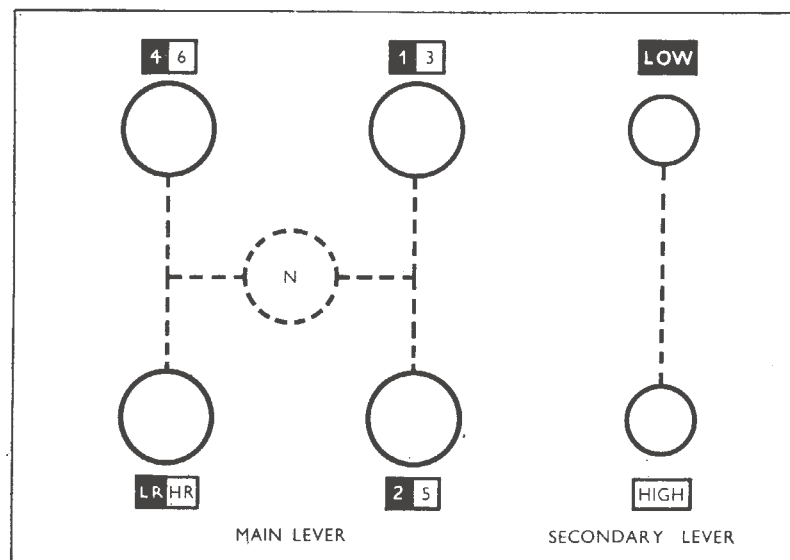

Fig. 4.
3. Select the desired gear ratios by positioning the main and secondary gear levers in accordance with Fig. 4. It will be noted that 1st, 2nd and 4th forward and "Low Reverse" (L.R.) are obtained with the secondary gear lever in the forward position whilst 3rd, 5th and 6th and High Reverse (H.R.) are obtained with the secondary lever in the rearward position. Speeds corresponding to these ratios are listed under the "Specification" section of this Supplement.